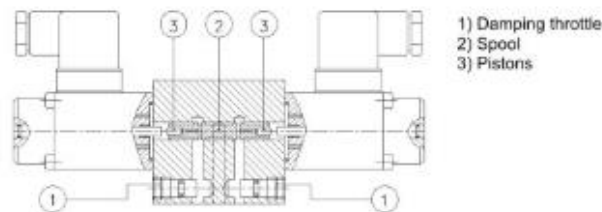

FIG. 12
- Adjustment screws (damping throttles) are on the MDM-5 valve below the solenoids, fig 12 (1).
- 3) Spool, pistons or solenoids are dirty: Remove solenoids or cover and clean solenoids' bore and spool (take care of the small pistons (3) in the spool (2) if placed, see fig.12).